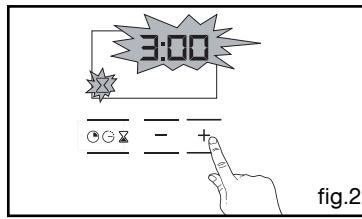

fig.2
- Adjust the chosen time by pressing the buttons + or - (fig.2)